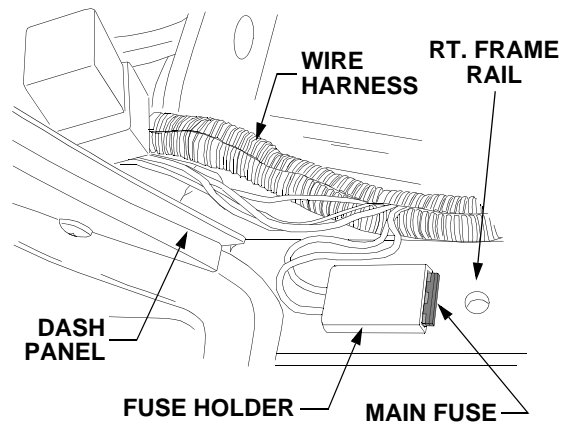

Figure 40
- Locate the main fuse under the dash panel, along the tractor's *right* frame rail. See Figure 40.